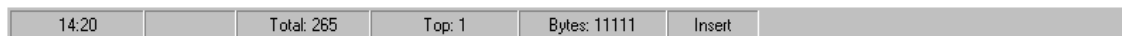

Figure 3-2. WinIDE Status Bar
- **Status bar** — The status bar (see **Figure 3-2**) appears along the bottom edge of the main window and contains a number of fields (depending on the project) that show: